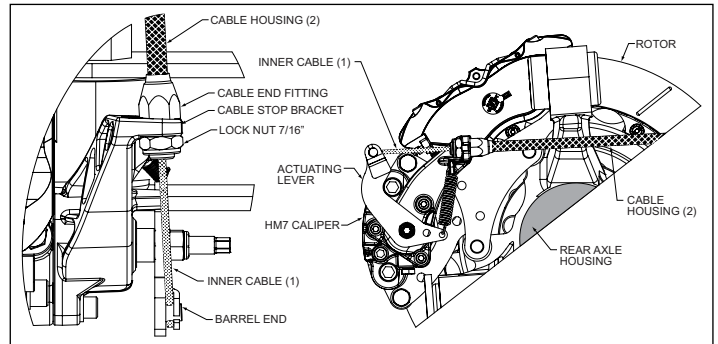

Figure 2. Typical Installation, HM7 Parking Brake Caliper
2. Attach cable and housing end to the HM7 caliper (5), Figure 2. Do not yet insert cable barrel end into caliper actuating lever.
1. Insert cable barrel end into HM7 caliper (5) actuating lever Figure 2.
5. Slide barrels (10) & set screws (11) onto inner cables and insert barrels into OEM balance bar, Photo 10.